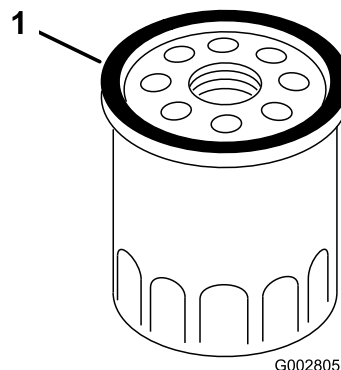

Figure 39
3. Use your finger to coat the gasket on the new oil filter with clean oil (Figure 39).